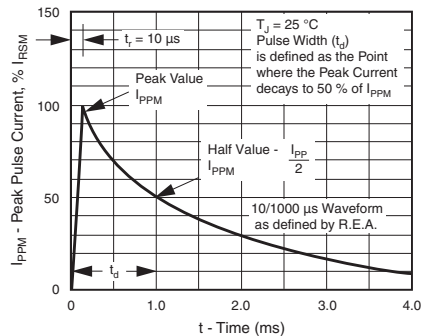
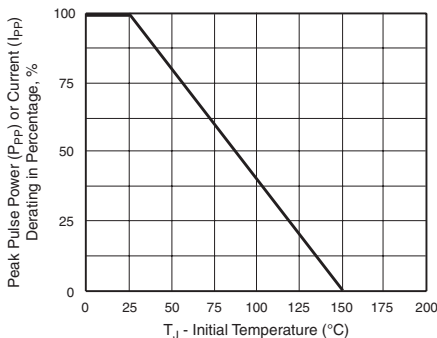

Figure 3. Pulse Waveform
Figure 2. Pulse Power or Current vs. Initial Junction Temperature
- (1) Pulse test: tp ≤ 50 ms
- (2) Surge current waveform per Fig. 3 and derate per Fig. 2
- (3) All terms and symbols are consistent with ANSI/IEEE CA62.35
- (4) For bi-directional types with VR 10 V and less, the ID limit is doubled
- (5) VF = 3.5 V at IF = 100 A (uni-directional only)